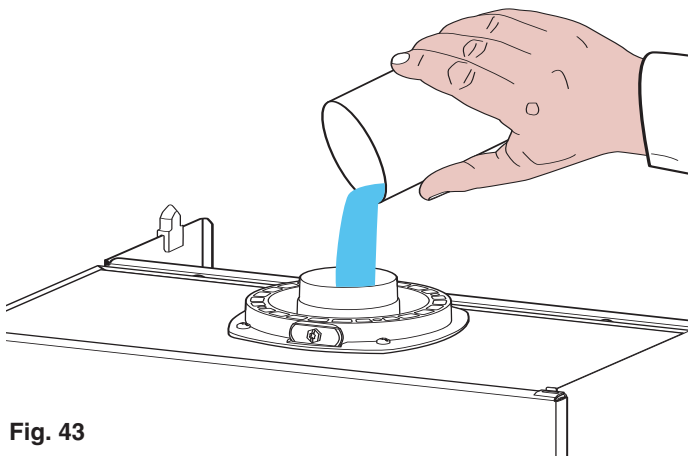

Fig. 43
2. **Fill the condensate trap with water, by pouring ½ litre of water into the exhaust flue connector (see Fig. 43). N.B. In the event of a prolonged period of system shutdown, the condensate trap should be filled before any renewed use. A shortage of water in the trap could possibly lead to a temporary leakage of fumes into the air, until it refills itself;**